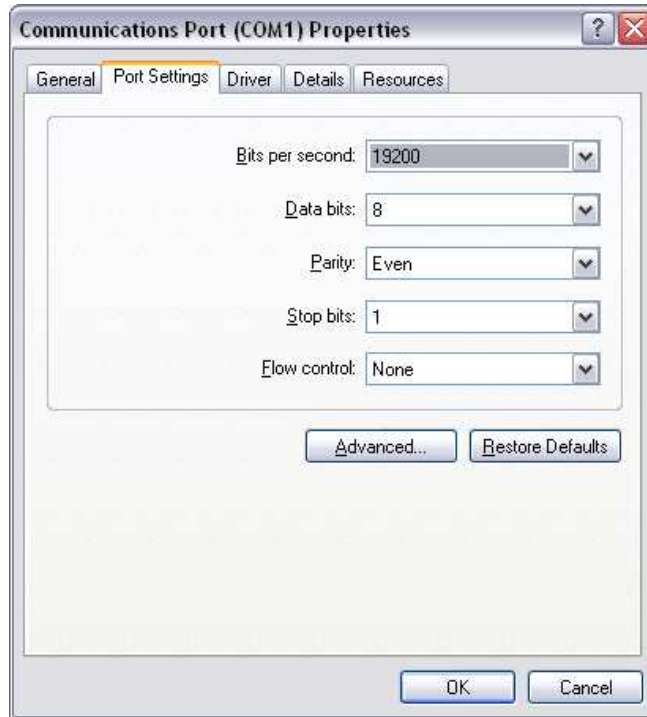

Figure 9. COM Port Settings
3. Select the **Port Settings** tab and change the settings as shown in Figure 9. Click **OK** to apply the new settings. Close the Device Manager after this step.